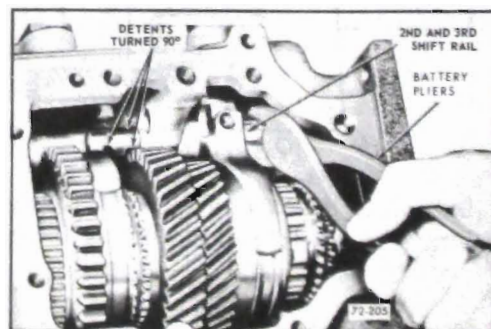

Figure 72-205 - Rotating 2nd-3rd Shift Rail
9. Using battery pliers with jaws padded, rotate second-third shift rail 90°. See Figure 72-205.